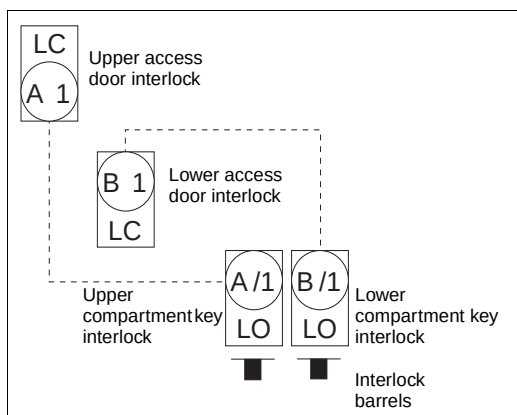

Figure 25: Interlock Status (Step 5)
5. Lock open (LO) both key interlocks to retract both interlock barrels (see Figure 25 for interlock status).